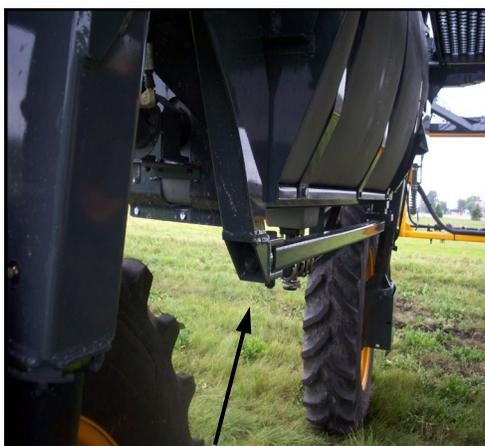

FIG 4.1
3. Loosen the rear lock nut on the leg brace (fig. 4.1). This will allow one leg to move further than the other without binding while adjusting the tread setting.